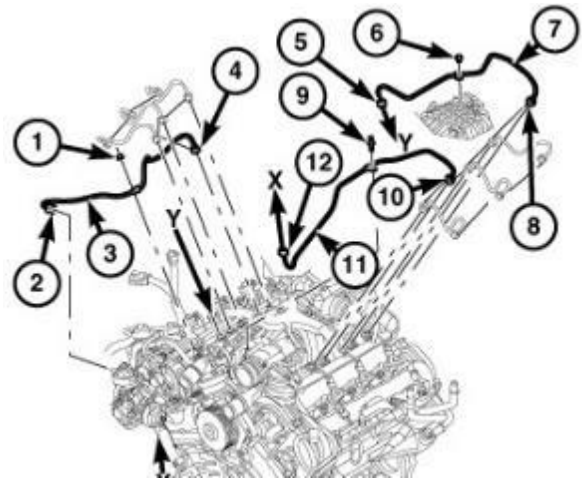

Figure 11 - Fuel Tubes and Nuts
14. Remove the nut (1) securing the fuel tube (Figure 11).
15. Remove the union nuts (2) and (4) and the right high pressure fuel tube (3), discard the fuel tube (Figure 11).
16. Remove the bolt (9) securing the left side fuel tube (11) to EGR air flow control valve (Figure 11).
17. Loosen the union nuts (10) and (12) and remove the left high pressure fuel tube (11), discard the fuel tube (Figure 11).
38. Install the **NEW** left high-pressure fuel tube (11) and tighten the union nuts (10) and (12) finger tight (Figure 11):
- Tighten the union nut (10) to 5 N·m (44 in. lbs.) plus an additional 75 degrees turn.
- Tighten the union nut (12) to 11 N·m (8 ft. lbs.) plus an additional 75 degrees turn.
39. Install the bolt (9) securing the left side high pressure fuel tube (11) to EGR air flow control valve and tighten to 11 N·m (8 ft. lbs.) (Figure 11).
40. Install the **NEW** right high-pressure fuel tube (3) and tighten union nuts (2) and (4) finger tight (Figure 11):
- Tighten the union nut (4) to 5 N·m (44 in. lbs.) plus an additional 75 degrees turn.
- Tighten the union nut (2) to 11 N·m (8 ft. lbs.) plus an additional 75 degrees turn.
41. Install the nut (1) securing the right-side high-pressure fuel tube (3) to right side cylinder head cover and tighten to 11 N·m (8 ft. lbs.) (Figure 11).